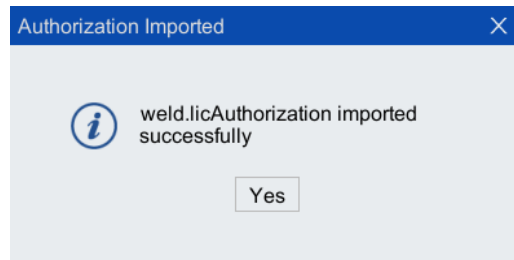

Fig. 3-13 "Select the Required Authorization File" interface
Step 5. After the authorization is successful, the dialog box shown in Fig. 3-13 will pop up. Click "Yes" to complete the authorization.